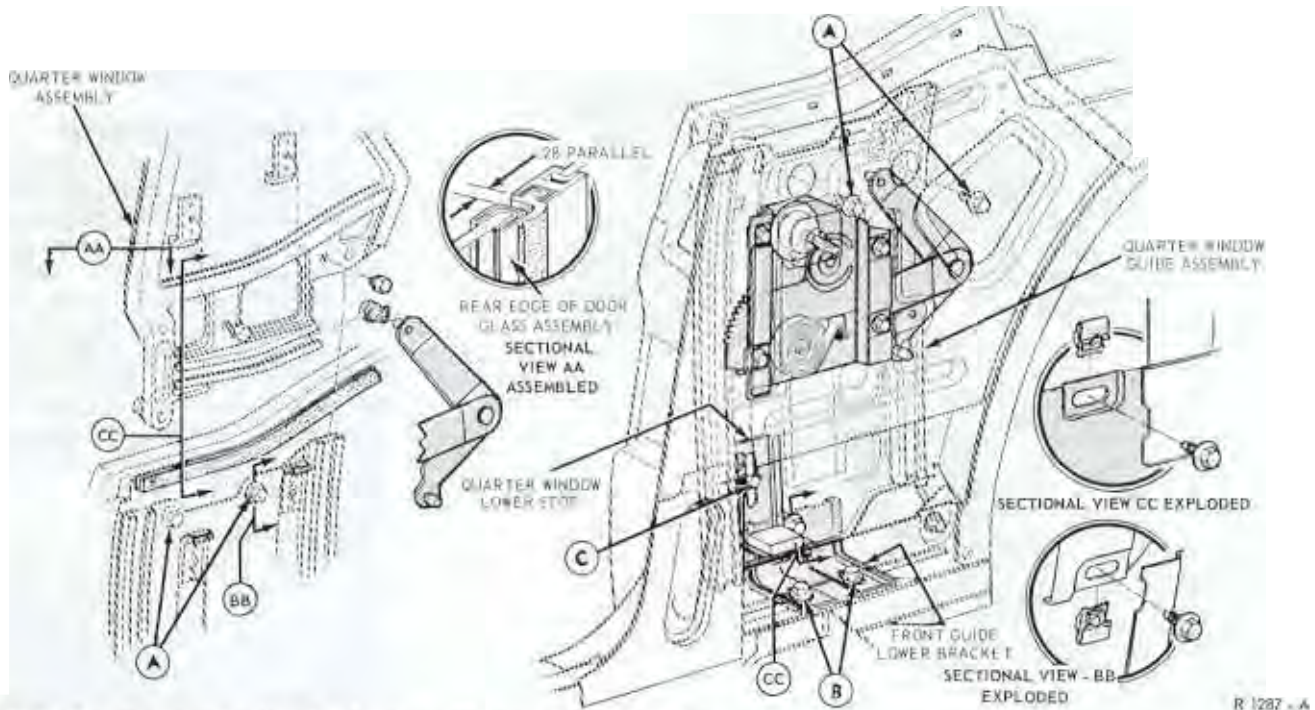

FIG. 10—Quarter Window Mechanism—Mustang Model 65, 76
3. To obtain the 0.28-inch parallel dimension between the front edge of the quarter window frame and the rear edge of the door window frame as shown in sectional view AA (Fig. 10) and to maintain a parallel alignment and interference between the top edge of the quarter window assembly and the roof rail weatherstrip, the quarter window guide assembly is adjusted forward or backward and up or down at the screw and washer assembly items A. See sectional views BB and CC (Fig. 10). Tighten the screw and washer assembly at items A, finger tight.